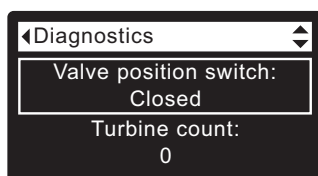

FIG. 96
2. Press the DOWN (▼) button to scroll through the list until **Valve position switch** is displayed (See Figure 96).